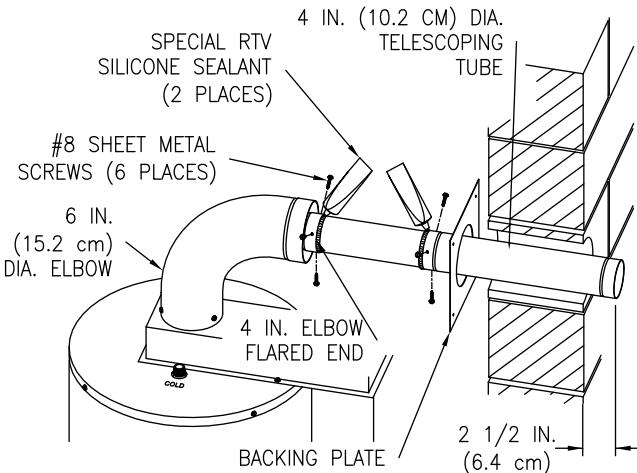

Figure 7
8. Extend the six (6) inch (15.2 cm) diameter telescopic tube to its maximum length. Place the large end of the six (6) inch (15.2 cm) diameter telescopic tube over the collar on the outer wall mounting plate. Drill three (3) 1/8 inch (3.2 mm) diameter holes, 120° apart, through the six (6) inch (15.2 cm) diameter telescopic tube into the collar on the outer wall mounting plate. Fasten with three (3) #8 sheet metal screws (supplied). Using the supplied special RTV silicone sealant, apply a sufficient amount to seal the joint (See Figure 7).